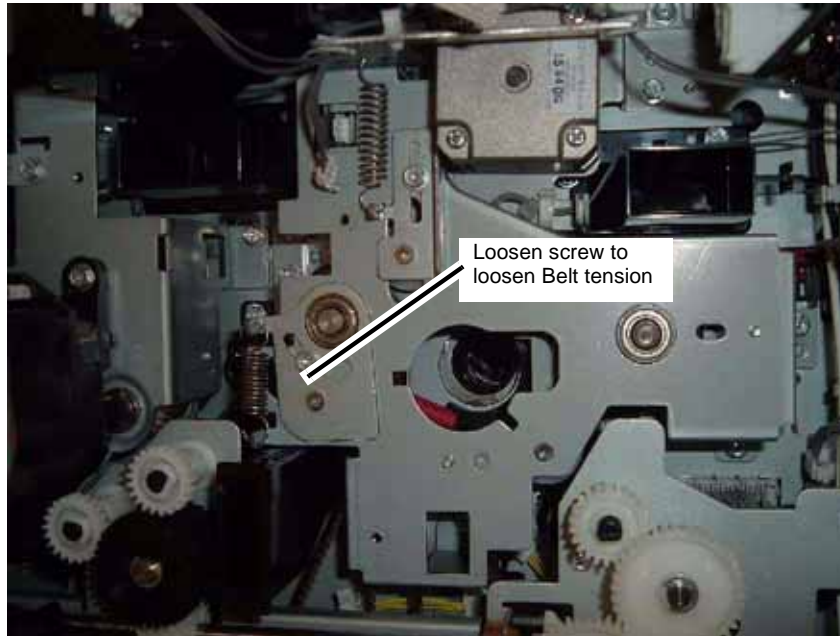

Figure 5 Releasing Belt Tension
7. Loosen the Belt Tension (Figure 5).